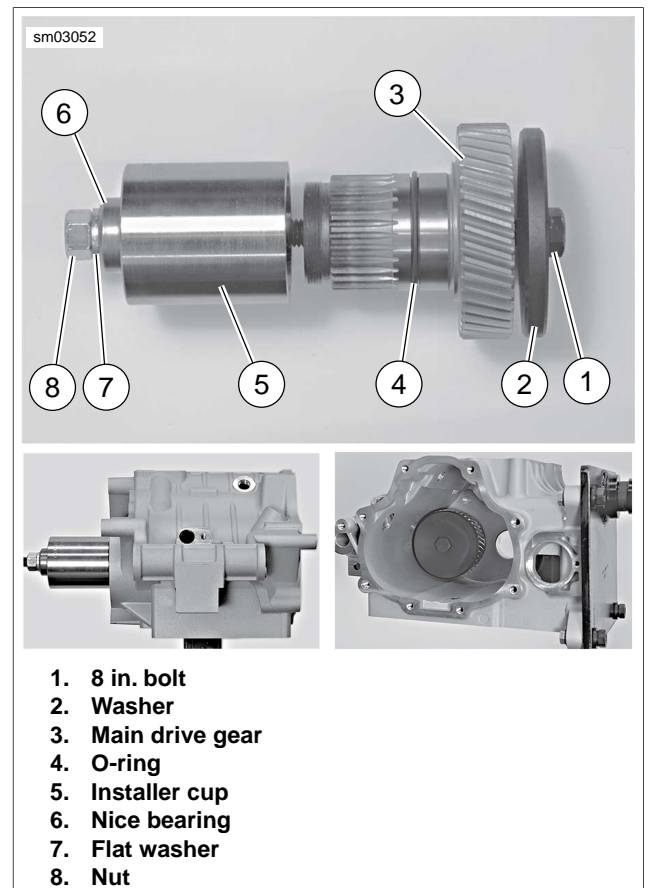

Figure 7-45. Installing Main Drive Gear (Typical)
See Figure 7-45. Make sure to install **new** o-ring (4) onto main drive gear (3) and lubricate o-ring with clean engine oil before installing drive gear into transmission case.
1. See Figure 7-45. Insert 8 IN. BOLT (Part No. HD-35316-4A) (1) through WASHER (Part No. HD-35316-7) (2) and main drive gear (3). Insert assembly into transmission case, through main drive gear bearing.
2. At outside of case, place INSTALLER CUP (Part No. HD-35316-12) (5), BEARING (Part No. 217801) (6), FLAT WASHER (7) and NUT (8) over end of bolt. Tighten nut until main drive gear bottoms against main drive gear bearing.